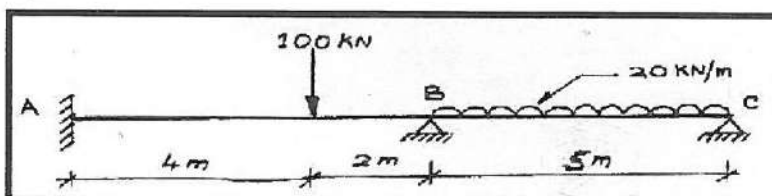

Fig.2
5. Analyze two span continuous beam ABC(Fig.2) in which support B sinks by 5mm by slope deflection method. Then draw Bending moment & Shear force diagram. Take EI constant and draw Elastic curve.